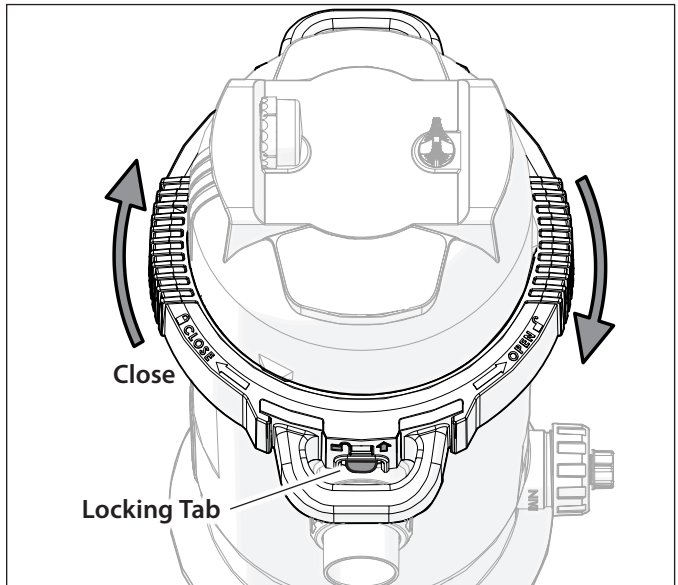

Figure 18. Closing the Locking Ring
11. Tighten the lid locking ring in a clockwise direction. The lid will pull down onto the filter tank until you will hear a "click" sound when the locking tab has engaged (Figure 18).